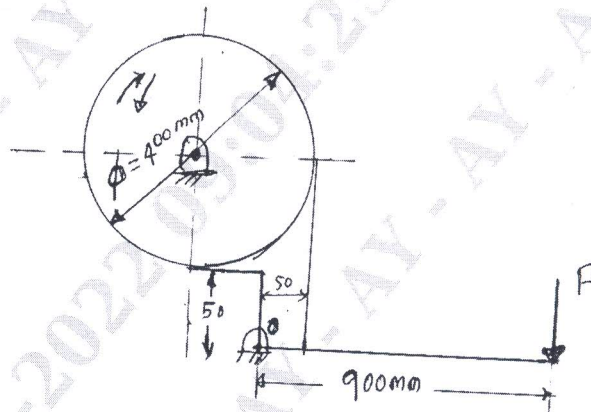

Fig. Q6 (b)
- b. The torque absorbed in the band brake shown in Fig. Q6 (b) is  $400 \times 10^3$  N.mm. Design the band and lever, taking  $\mu = 0.27$  and diameter of drum as 400 mm. The allowable stress in band may be taken as  $70 \text{ N/mm}^2$ .